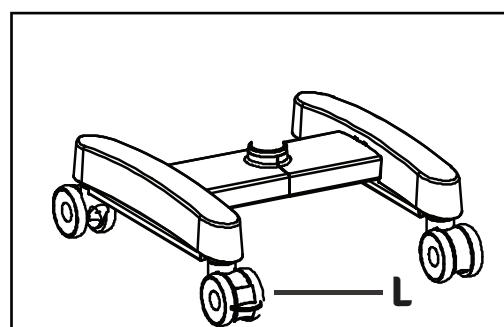

Fig.54
Locks the stand from unwanted movement by pressing down the two brakes provided on caster wheels. To unlock press upper portion of brake. See (L) Fig.54.